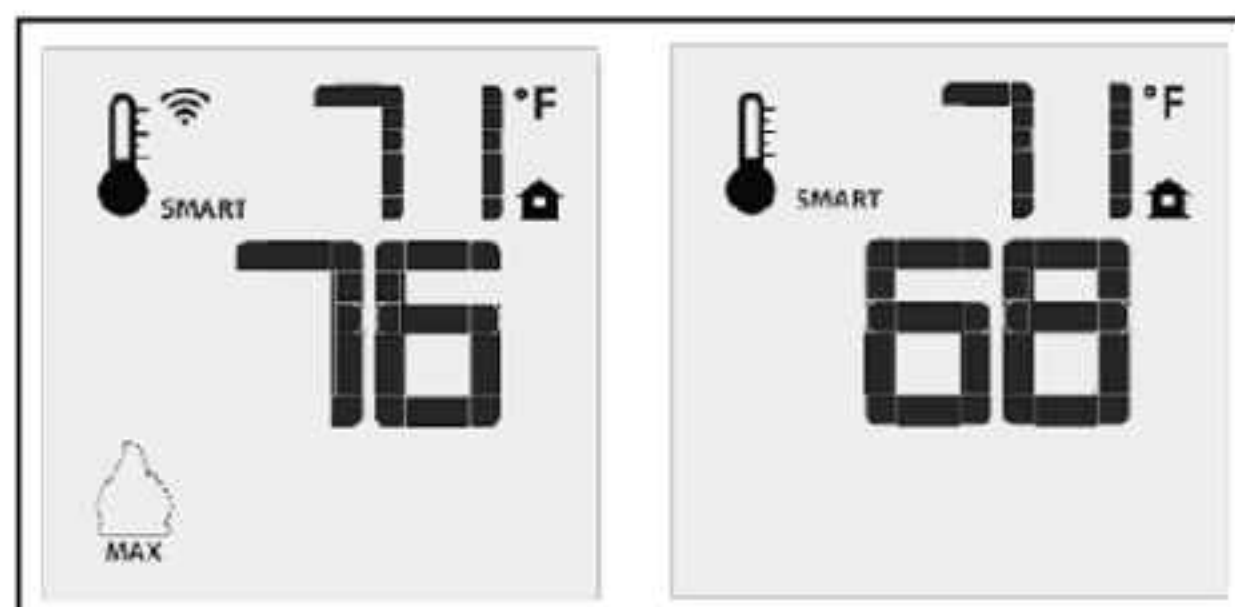

Figure 110: Remote Control's Smart Flame Function.
The Proflame GTMFS has six (6) flame levels. With the system on, and the flame level at the maximum in the appliance, pressing the Down Arrow Key once will reduce the flame height by one step until the flame is turned off. The Up Arrow Key will increase the flame height each time it is pressed. If the Up Arrow Key is pressed while the system is on but the flame is off, the flame will come on in the high position (refer to Figure 110). A single "beep" will confirm reception of the command.
Transmitter: The life span of the remote control batteries depends on various factors: quality of the batteries used, the number of ignitions of the appliance, the number of changes to the room thermostat set point, etc. When the Transmitter batteries are low, a Battery Icon will appear on the LCD display of the Transmitter (see Figure 110) before all battery power is lost. When the batteries are replaced this icon will disappear.